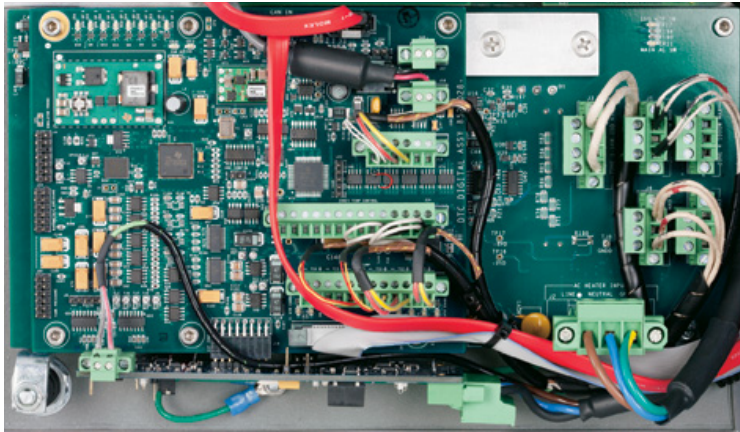

Fig. 7.2. DTC PCB Connections
6. Disconnect the heater, thermocouple and temperature sensor leads from the DTC PCB (see Figure 7.2).